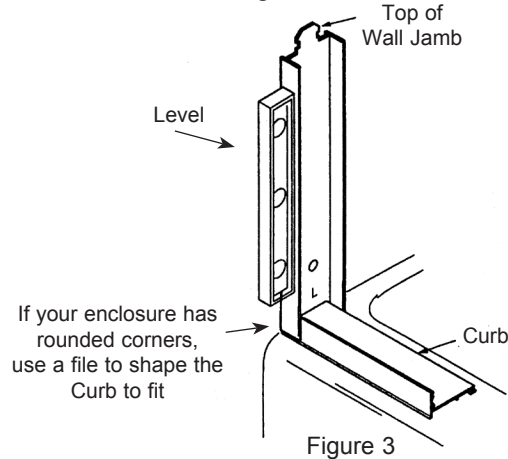

Figure 3
- B. Place the left Wall Jamb (#3L) against the left wall and slip/snap the bottom of the Wall Jamb (#3L) over the Curb (#2). Use a Level held against the side of the Wall Jamb (#3L) to align it vertically straight up and down as shown in Figure 3. Use a Pencil to mark the position of each of the three